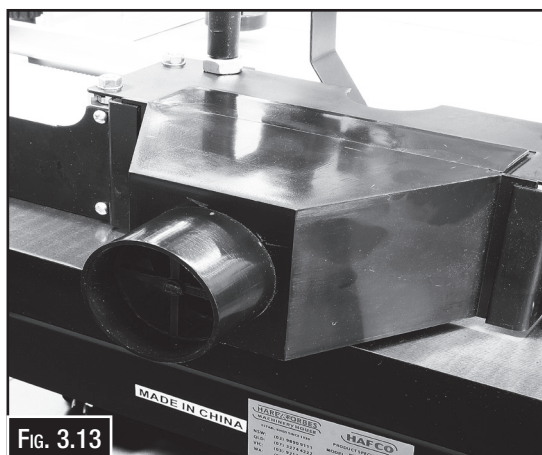

Fig. 3.13
1. The dust extraction port (#11) should now be fitted to complete the assembly. This slots in the two gaps at the rear of the fence assembly bracket. When fitted the flange of the hood should fit flush inside the recess of the fence assembly bracket. (Fig. 3.13)